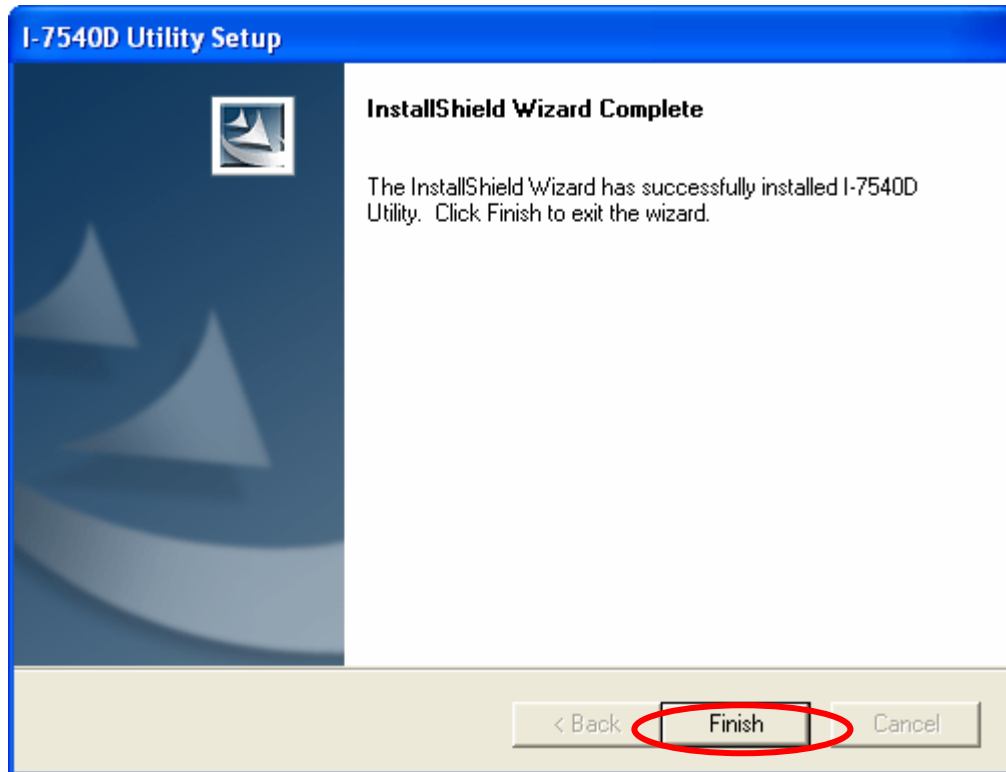

Figure 3-5: “Successful Completion of the Installation” dialog
Step 6: Click “Install” button and start to install the I-7540D Utility to the system. After finishing the process, a “Complete” window will pop up to prompt users that the successful completion of the installation. And click “Finish” button to exit. See figure 3-5.